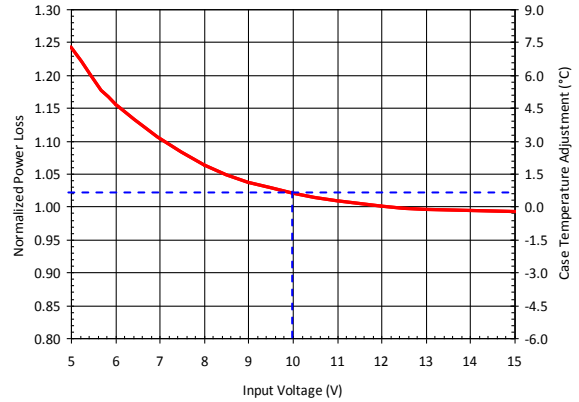
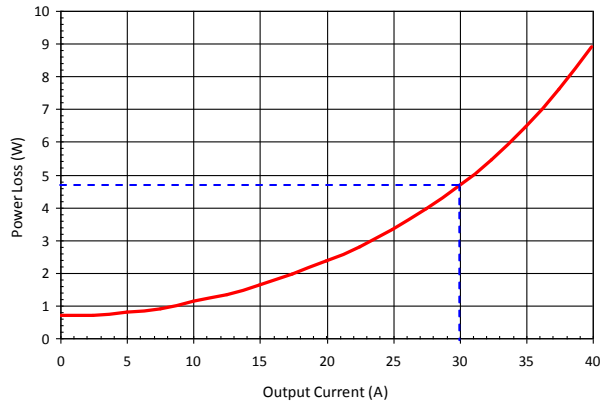
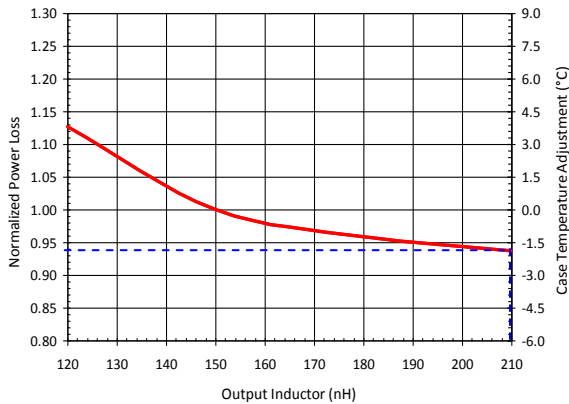

Figure 10: Normalized Power Loss vs. Input Voltage
Figure 8: Typical IR3553 Power Loss
Figure 14: Power Loss vs. Output Inductor
The measured single-phase IR3553 power loss under the same conditions is provided in Figure 8.
If any of the application condition, i.e. input voltage, output voltage, switching frequency, VCC MOSFET driver voltage or inductance, is different from those of Figure 8, a set of normalized power loss curves should be used. Obtain the normalizing factors from Figure 10 to Figure 14 for the new application conditions; multiply these factors by the power loss obtained from Figure 8 for the required load current.
- 1) Determine the power loss at 30A under the default test conditions of  $V_{IN}=12V$ ,  $V_{OUT}=1.2V$ ,  $f_{SW} = 400kHz$ ,  $L=150nH$ ,  $VCC=7V$ ,  $T_{AMBIENT} = 25^{\circ}C$ , no heat sink, and no air flow. It is 4.7W from Figure 8.
- 2) Determine the input voltage normalizing factor with  $V_{IN}=10V$ , which is 1.02 based on the dashed lines in Figure 10.
- 6) Determine the inductance normalizing factor with  $L=210nH$ , which is 0.94 based on the dashed lines in Figure 14.
If any of the application condition, i.e. input voltage, output voltage, switching frequency, VCC MOSFET driver voltage, or inductance is different from those of Figure 9, a set of IR3553 case temperature adjustment curves should be used. Obtain the temperature deltas from Figure 10 to Figure 14 for the new application conditions; sum these deltas and then subtract from the IR3553 case temperature obtained from Figure 9 for the required load current.
- 13) Determine the case temperature with L=210nH, which is -1.8° based on the dashed lines in Figure 14.